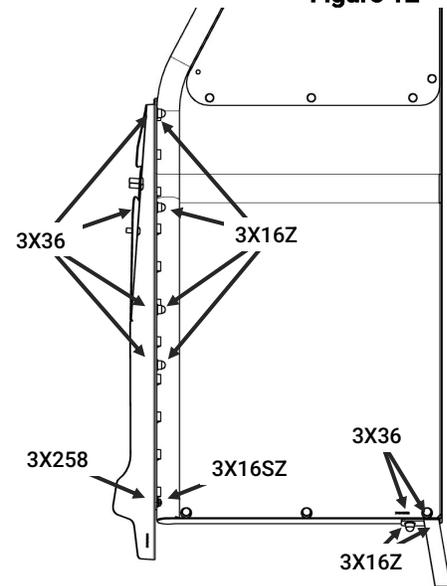

Figure 15
- Prepare (4) [3X36] 1/4-20X5/8" carriage bolts, (1) [3X258] 1/4-20X1/2" button head screw, (4) [3X16Z] 1/4-20 whiz nuts, and (1) [3X16SZ] 1/4-20 small whiz nut near the mounting plate. Prepare (2) [3X36] carriage bolts, and (2) [3X16Z] whiz nuts near the Inboard Support Bracket.
- Use the first set of fasteners prepared in step 1. to loosely secure the Partition to the Mounting Plate. The button head screw and the small whiz nut go in the bottom hole. Use the second set of fasteners prepared in step 1. to loosely attach the Partition to the Inboard Support Bracket. Figure 15 shows the partition installed at this stage.